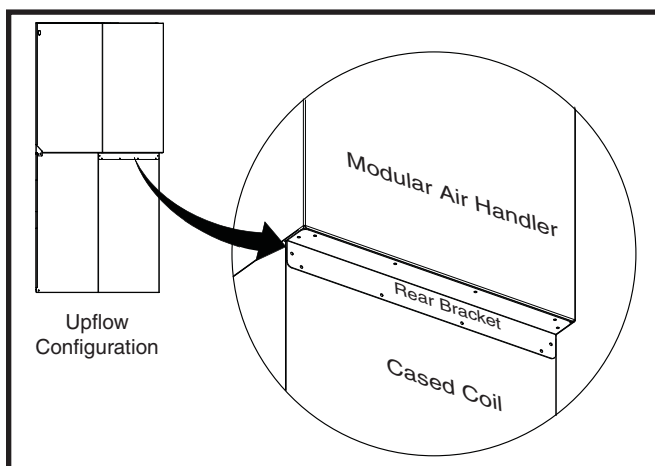

Figure 2. Rear Bracket Installation - (Upflow Only)
2. Carefully place the modular air handler on top of the cased coil making sure not to damage the cased coil flanges. The units will be flush in front with an overhang in the back as shown in Figure 2 (page 7).